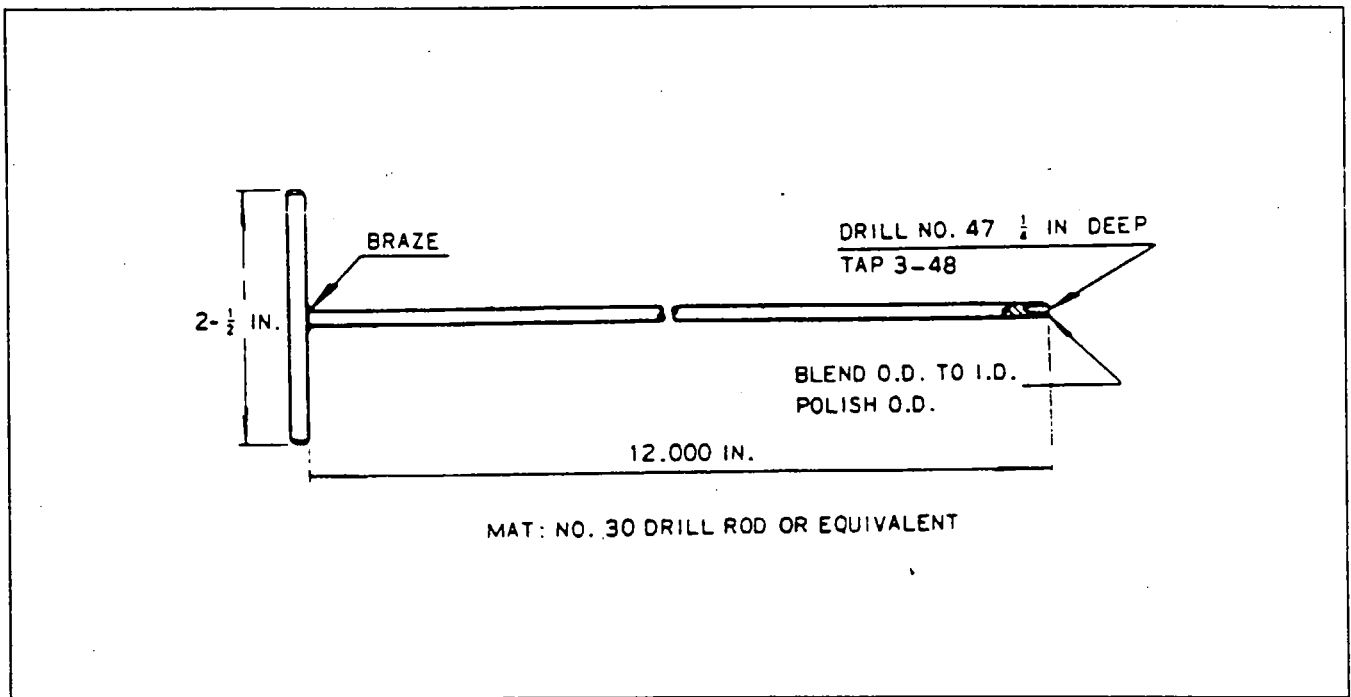

Figure 74-14. Assembly Tool
- A. Fabricate a tool as shown in Figure 74-14 for installing the insulating sleeves over cable terminals.